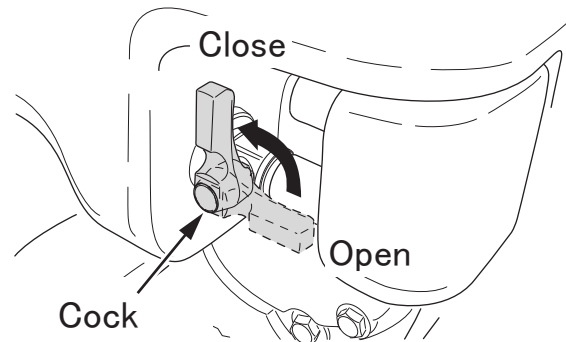

Fig.20
2. When stopping sprinkling work, close the cock of water tank.(fig. 20)